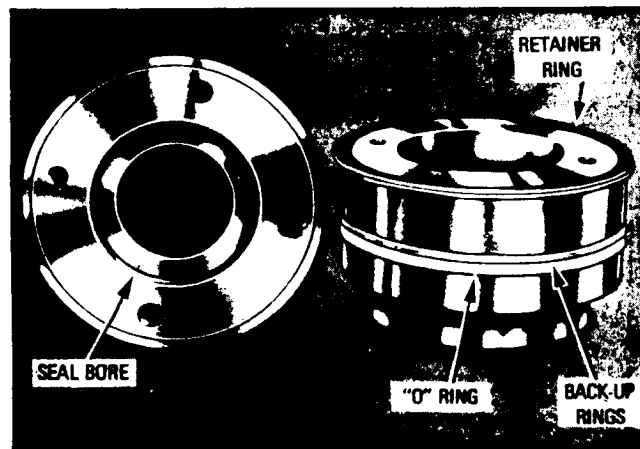

Fig. 6- Head Assembly
2. Place new "O" ring and back-up ring on cylinder head. The concave side of the back-up ring must be turned toward the "O" ring. The flat side of the "O" ring must be facing to the same end of the gland as the rod monoseal. See Fig. 6.